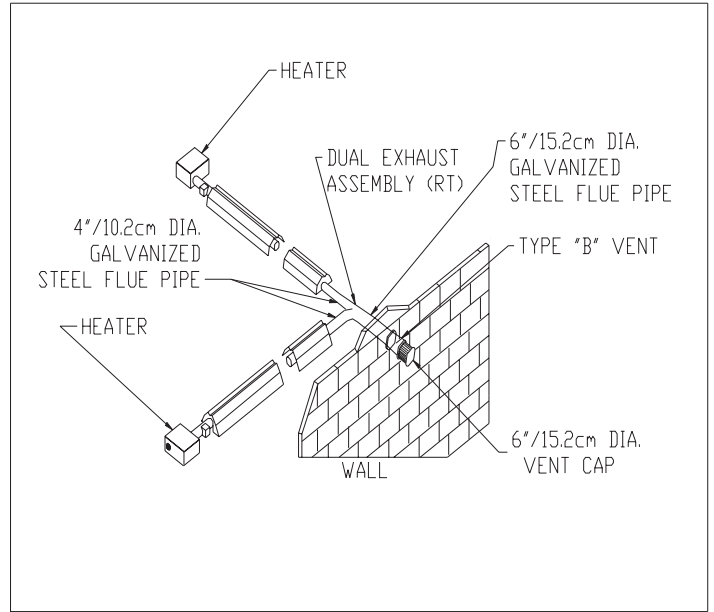

Figure 2.8.6
- \* A common flue of 6 in./15.2cm diameter must be used for double-venting of units. One thermostat must control both units. When common venting is used, flues should be connected so that the by-products of one heater cannot flow into the adjoining flue of the other heater. A dual-exhaust assembly is available from Brant Radiant Heaters, Part Number BR-YA or BR-RTA (see Figures 2.8.6 through 2.8.8). A Field Controls SK-6 vent cap must be used for sidewall common venting of all models.